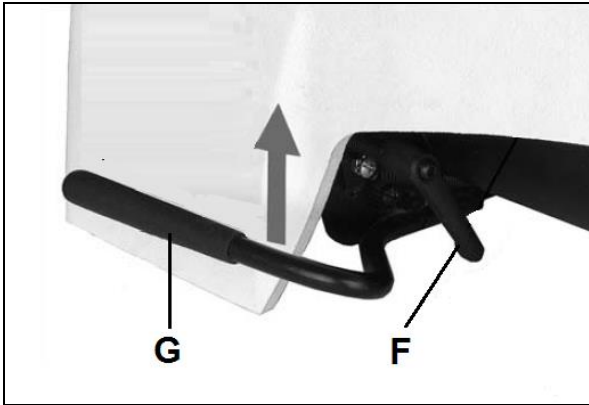

Fig 20
Take tension off the belt. Loosen handle (F, Fig 20) and lift the lever (G).